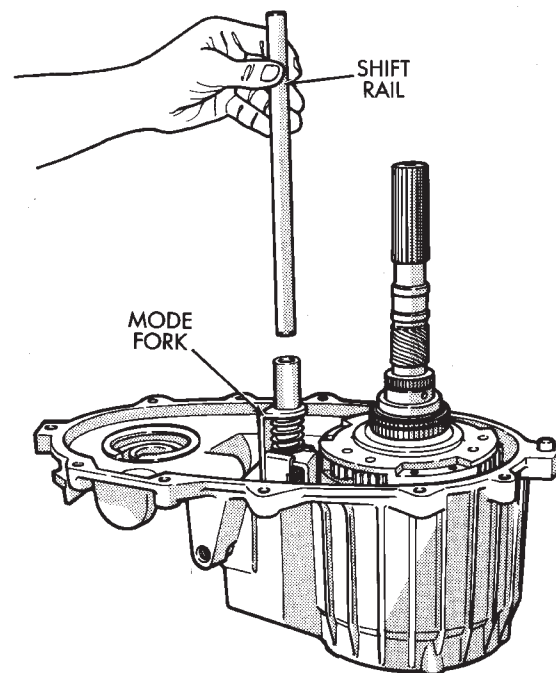

Fig. 21 Removing Shift Rail
(28) Remove shift rail by pulling it straight up and out of fork (Fig. 21).